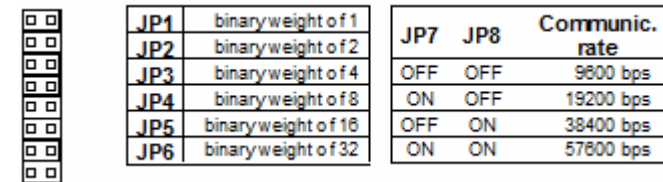

Figure 5
Address has to be set from 0 to 63. The weight of individual jumpers (IJ) for addressing and communication rate settings is listed on Figure 5. Procedure: